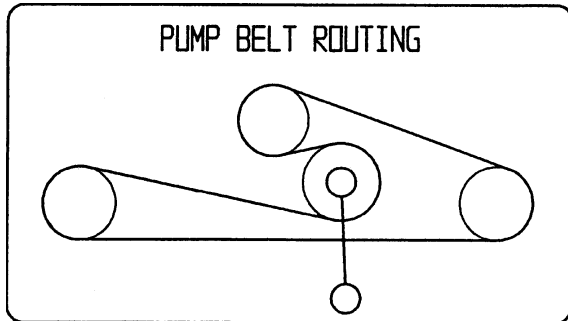

Figure 49
1. Pull spring loaded idler down and remove traction belt from the engine and hydro pump pulleys (Fig. 49). Remove belt between pulleys.
2. Install new belt around engine and hydro pump pulleys (Fig. 49).
3. Pull spring loaded idler down and align below traction belt. Release pressure on spring loaded idler (Fig. 49).